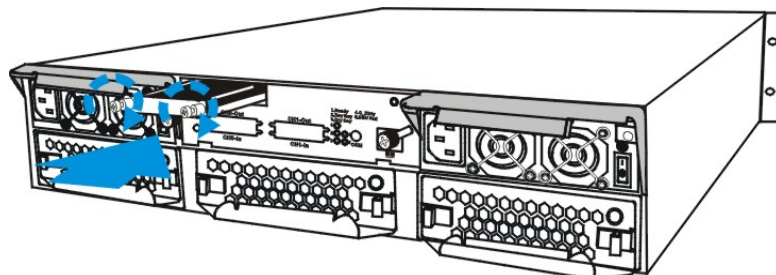

Figure 5-5: Install the BBU Module
Step 2. Install the new BBU module. After the faulty BBU module has been removed, the new BBU module can be installed. To do this, align the BBU module with the empty slot, and then gently push the BBU module into the slot. (See **Figure 5-5**)